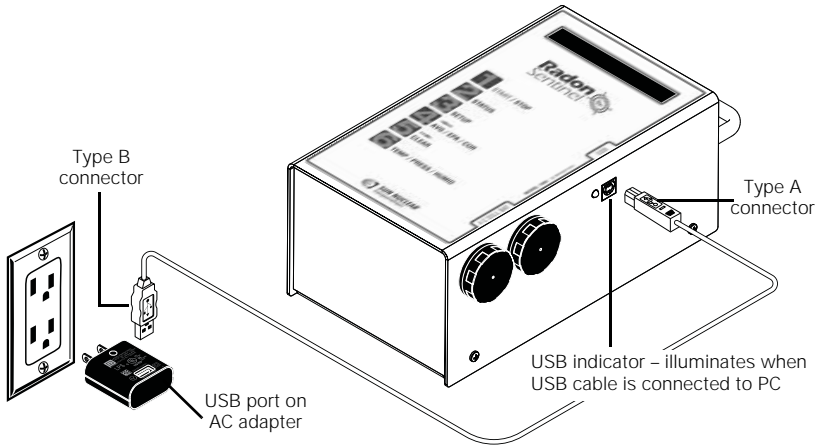

Figure 3. Connecting Power to the Radon Sentinel
- 1 Connect the USB cable type A connector to the USB port on the AC adapter (Figure 3).